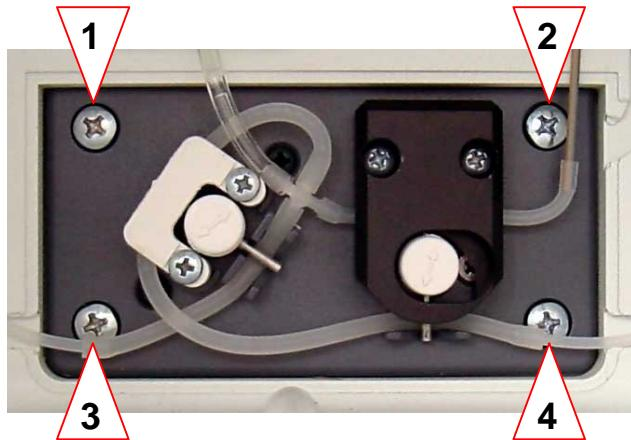

Fig. 3-5 FMS unit
6. Open the four mounting screws of the FMS (see Fig. 3-5, 1 to 4).